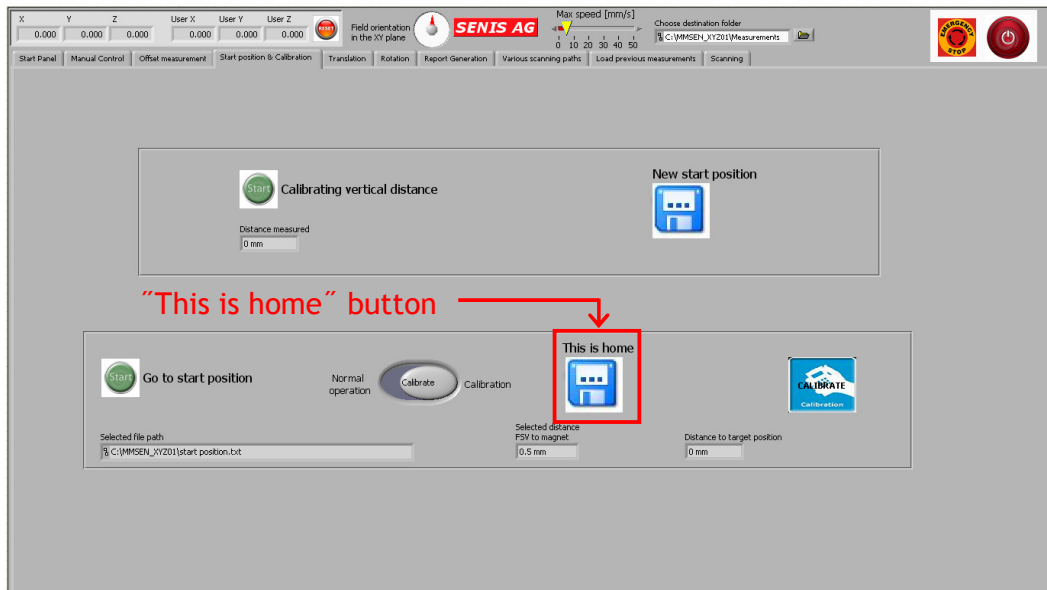

Figure 20: Using the "This is home" button
- 10) Click on the "This is home" button (Figure 20). The probe will move to each of the three optical switches while counting steps. After that the software will update the "Home position" file located on the hardware location C:\MMS-1-R.